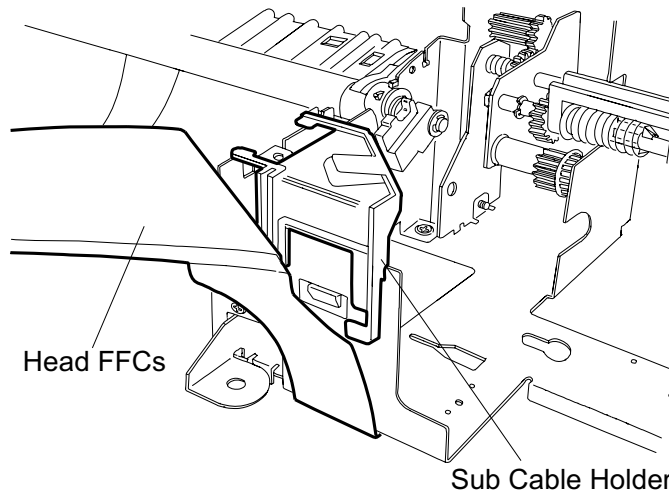

Figure 3-57. Head FFC Removal
- ❑ When mounting the paper end sensor assembly on the top frame, be sure to mount the torsion spring correctly at the point shown in Figure 3-57.
- ① Mount the paper empty sensor onto the top frame.
- ② Align the paper empty sensor lever with the cutout in the upper paper guide assembly.
- ③ Attach the right paper guide assembly to the top frame, or refer to POINTS TO NOTE in Section 3.13.5.